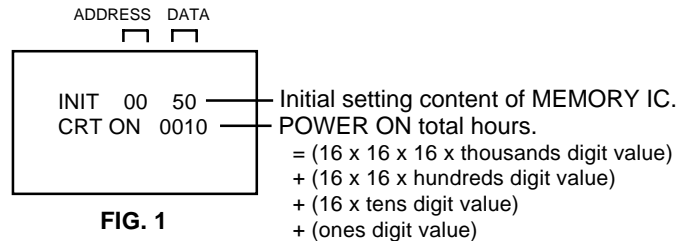

FIG. 1
2. Press both VOL. DOWN button on the set and Channel button (6) on the remote control for more than 2 seconds. ADDRESS and DATA should appear as FIG 1.